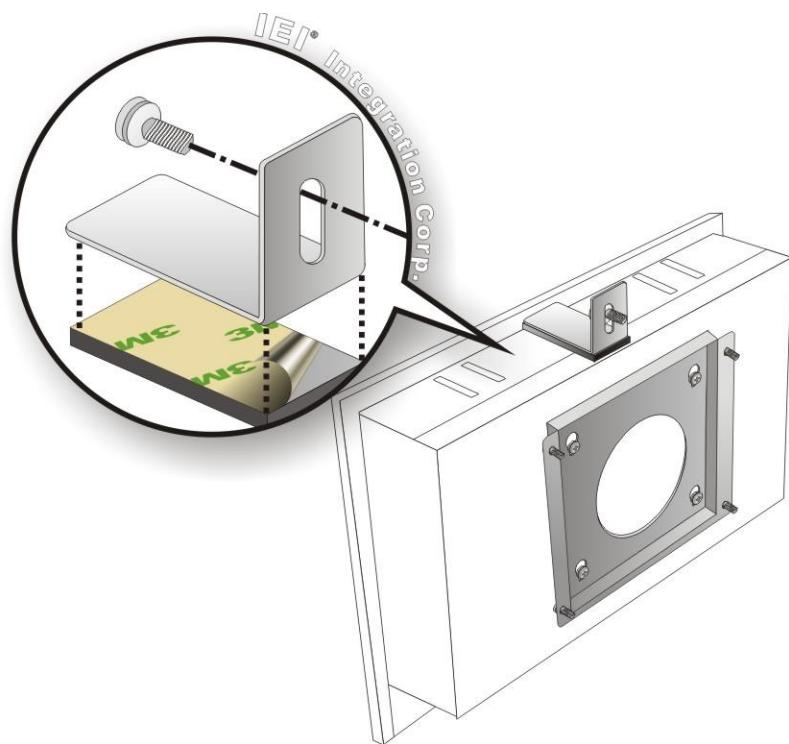

Figure 3-12: Secure the Chassis
**Step 9:** Secure the panel PC with the wall-mounting kit. To do this, stick the protective cushion to the wall-mounting kit first. Then, put the wall-mounting kit on the top panel of the panel PC. Carefully mark the location of the wall-mounting kit screw holes on the wall. Drill a pilot hole at the marked location on the wall. Secure the wall-mounting kit to the wall by inserting a retention screw into the pilot hole on the wall (**Figure 3-12**). This step is to avoid the panel PC being pushed apart from the wall-mounting bracket accidentally.